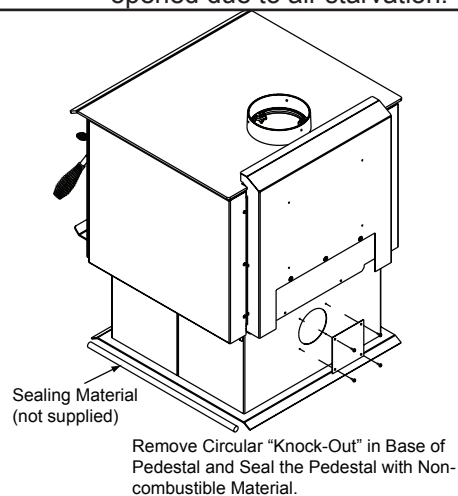

Figure 38.2 - Alternate Floor Installation
1. **Rear:** Remove the access cover on the back of the pedestal and discard (**Figure 38.2**).